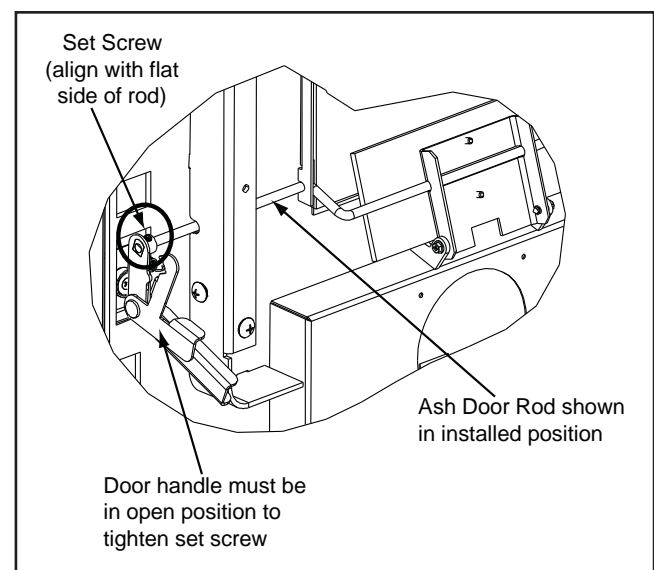

Figure 22.3
5. Re-install handle using a 3/32 Allen wrench to tighten the set screw in the door handle. The set screw needs to be snug. **Figure 22.3.**